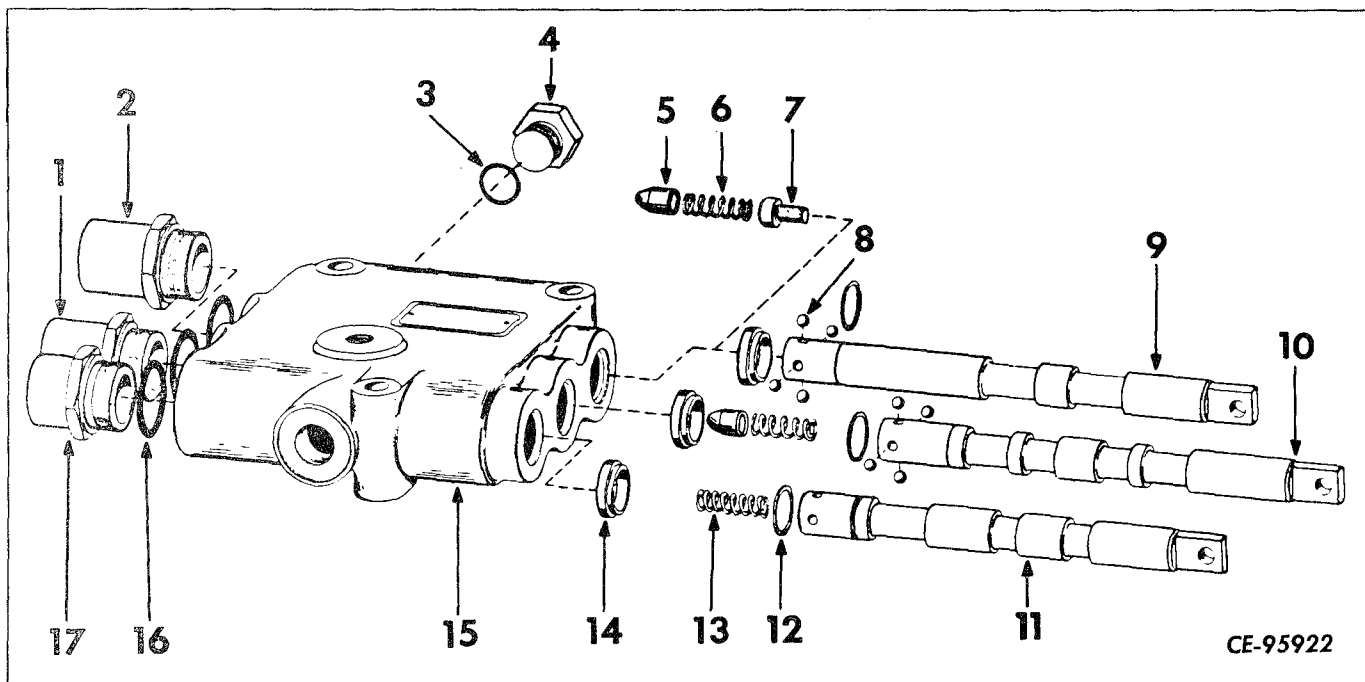

Figure 4-144
a. Remove the plug (4, Fig. 4-144) and "O"-ring (3) from the side of the valve housing.
b. Remove the detent plug (17) and at the same time push brake plunger (11) through housing (15) so plug and plunger come out as an assembly. Remove and discard "O" ring (16). Do the same procedure for the range and directional plungers.
c. Slide the plug (17) off the brake plunger (11) being careful not to scratch the polished areas of the plunger. Remove spring (13) and retaining ring (12) from plunger.
- a. Install plug (4, Fig. 4-144) and a new "O" ring (3) in housing (15). Install new retaining rings (12) on plungers.
- c. To assemble detent balls in detent plug, install plunger plug (7) (range only), spring (6) and cam (5) in bore of plunger. Using a suitable small rod depress the cam until two opposing detent balls (8) can be inserted in their respective holes. Depress cam far enough to allow balls to be completely retracted within plunger. Retain the two inserted balls by applying pressure to them with the thumb and index finger. Remove